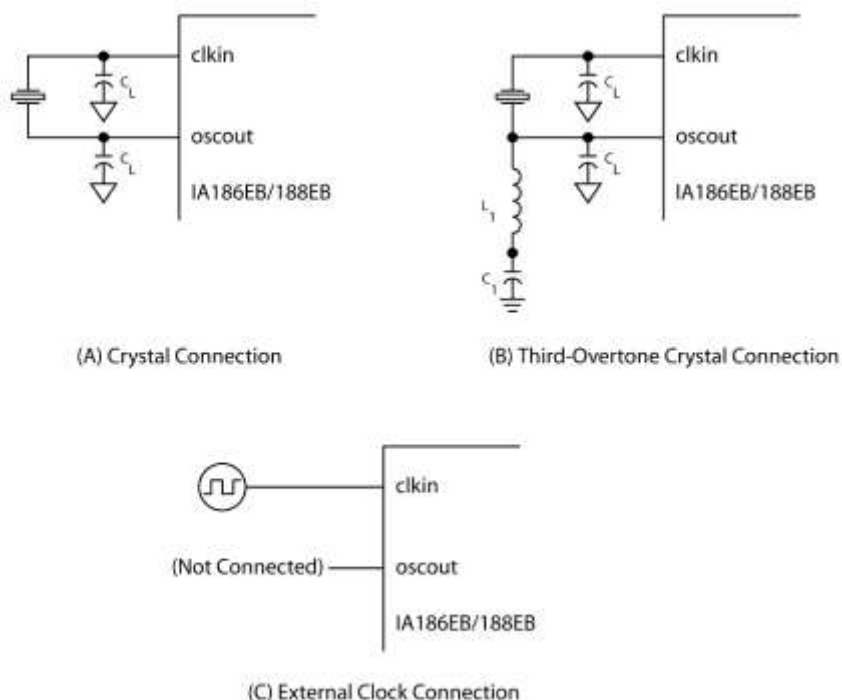

Figure 11. Clock Circuit Connection Options
Figure 11 shows the various operating modes of the clock circuit. The clock circuit can use either a parallel resonant fundamental mode crystal network (A) or a third-overtone mode crystal network (B), or it can be driven by an external clock source (C).